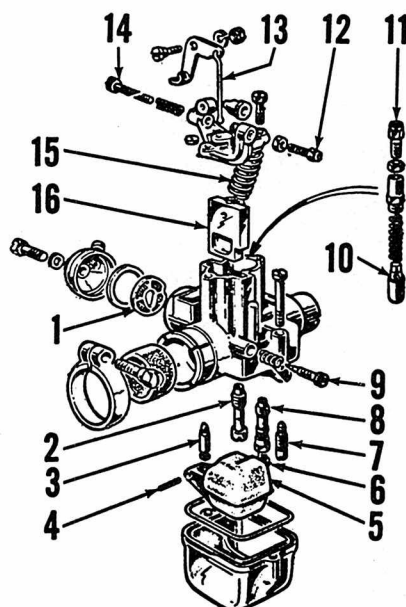

Fig. LM1-4—Exploded view of typical SH carburetor. Model SHB used on Cento is not provided with pilot jet (7) and atomizer (8).
Fig. LM1-3 — Cross sectional view of typical Del'Orto SH type carburetor. Model SHB carburetor used on Cento is similar; however, it is not provided with pilot jet (7) and atomizer (8). Refer to Fig. LM1-4 for legend.
**SH TYPE CARBURETORS.** Figs. LM1-3 and LM 1-4 show typical SH carburetor. Idle mixture is adjusted by turning screw (9). Normal setting is 1-1½ turns open. Idle speed is adjusted at screw (14). Refer to the following specifications and Fig. LM1-4.